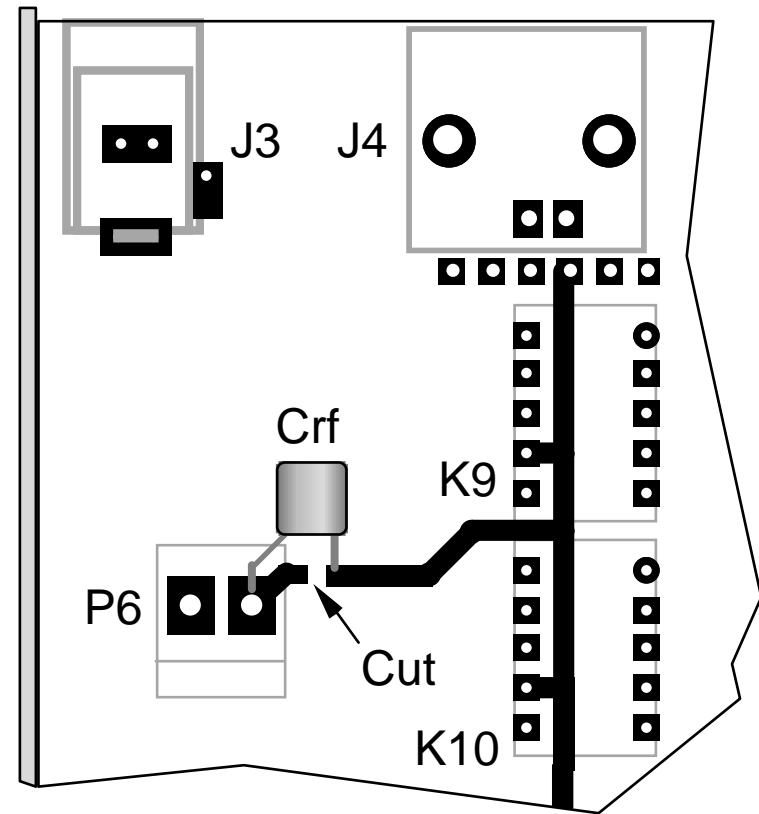

Figure 39
- If your K2 serial number is 2999 or lower:** Install the supplied DC blocking cap (**RF-Crf**, .047 μ F) on the bottom of the RF board at the location shown in Figure 39. The indicated trace must be fully cut; verify that it is open using your DMM.